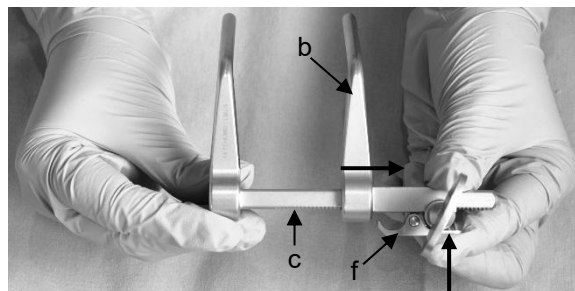

Fig. 7a
4. The CASPAR distractor, right (LMJ-5) is prepared accordingly in order to screw the second distraction screw into the vertebral body. To this purpose, the flexible retractor arm (b) of the CASPAR distractor is advanced outwards on the toothed rack (c) until it can be removed. At the same time, release the lock (f) by pressing in the direction of the toothed rack (c) (Fig. 7a).